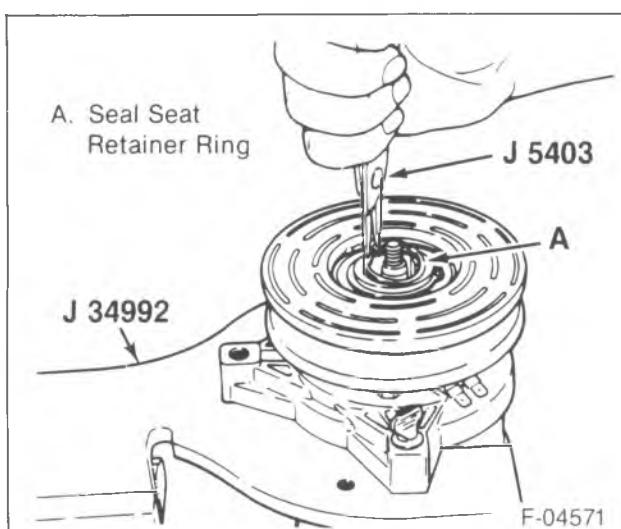
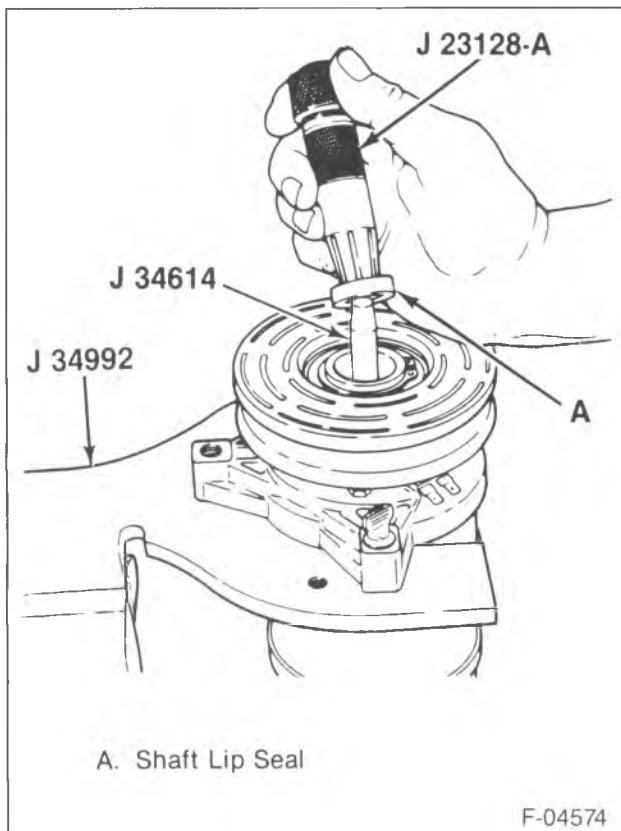

Figure 22—Removing or Installing the Shaft Seal Seat Retainer
Figure 23—Removing or Installing the Shaft Seal
1. Clutch plate and hub assembly (22).
- Install J 34614 over the threaded end of the shaft (38).
2. Shaft seal retainer ring using J 5403 (figure 22).
- Clean the compressor neck area around the shaft (38), the exposed part of the shaft seal (29) and the O-ring seal groove.
3. Shaft lip seal using J 23128-A (figure 23).
- 3. Shaft lip seal using J 23128-A (figure 22).